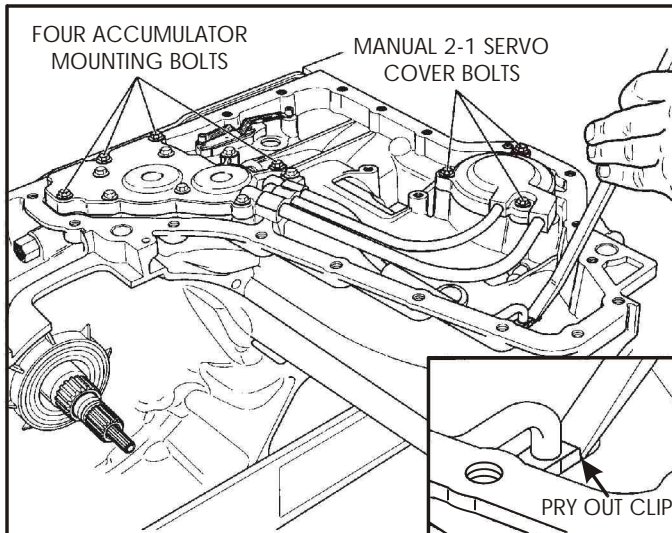

Figure 41
4. Remove the four bolts indicated in Figure 41 from the 1-2 and 2-3 accumulator assembly.
5. Remove the three bolts indicated in Figure 41 from the 2-1 manual servo cover
6. Pry the lube pipe retainer clip from the case using a large screwdriver, shown in Figure 41.